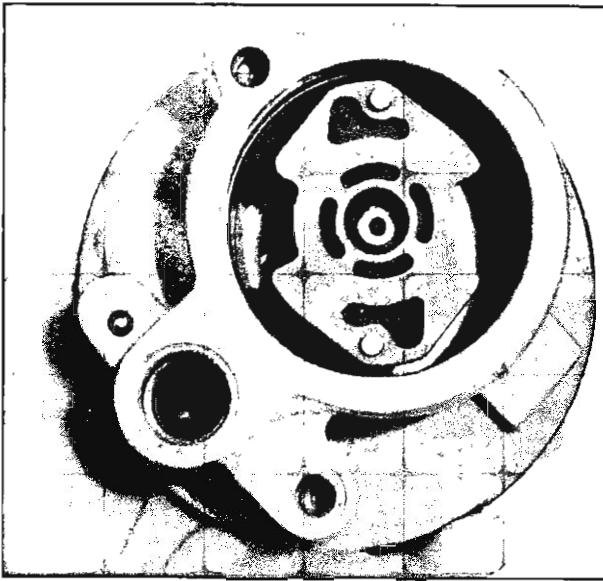

Fig. 69—Installing Thrust Plate
2. Install thrust plate on dowel pins with ported face to rear of pump housing (fig. 69).